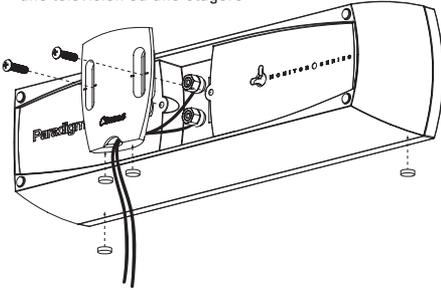

Fig. 3
If you are placing a Cinema™ 110 C speaker on top of a TV or shelf, you must use the Adjustable TV-Top/Shelf Support included (Fig. 3). Installation is as follows:
3. Apply self-adhesive rubber pads (included) as shown in Fig. 3.